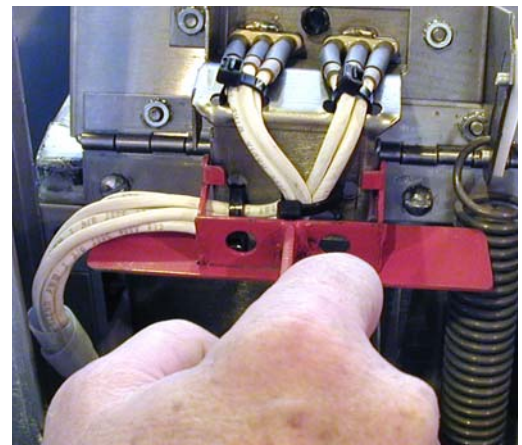

Figure 8: Place the provided gauge on the bracket and ensure the element wires have a sufficient loop to clear the gauge as shown. Correct routing as necessary.
9. Secure the element wires to the element support bracket with four wire ties as shown at right and use the Go-No-Go gauge provided in the training session to ensure the element wires are properly routed away from the bracket as shown in Fig. 8. Correct wire routing as necessary to clear gauge as shown.
12. Place spiral wrap around the element wires to protect them from chafing (see Fig. 8, 11, 14). Ensure the wrap covers the element wires from the edge of the new bracket to below the level of the hi-limit. Attach a wire tie below the bottom edge of the spiral wrap to ensure it stays in place. See illustration on page 10.